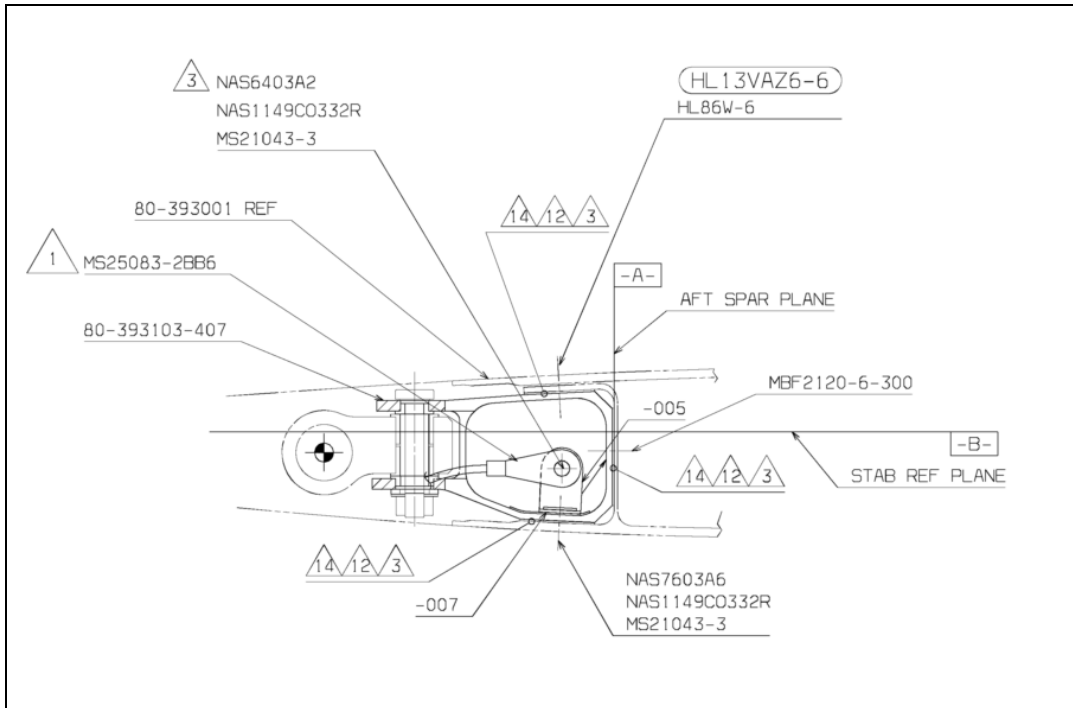

Fig.9 – Outboard Fitting lateral view (common for LH and RH).
- 39 Install outboard fitting P/N 80-393103-407 using temporary fasteners and the epoxy adhesive (EA 934 NA) as sealant (ref also to fig.9-fig.10).
- 40 Install the permanent fasteners on the outboard fitting as per SRM 51-41-00 (ref also to fig.9-fig.10)